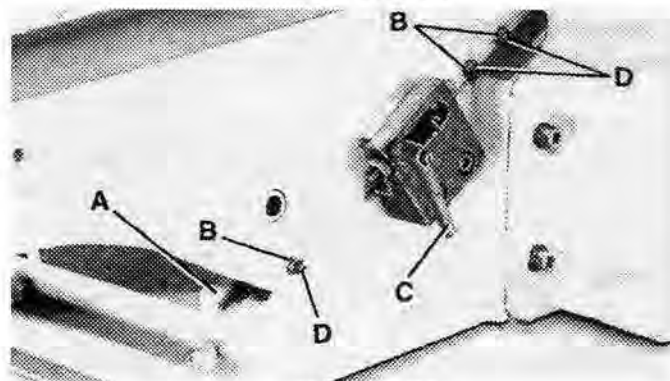
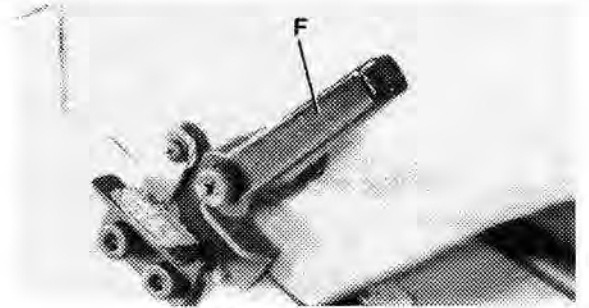

FIGURE 31
FIGURE 32
1. To adjust the infeed table gib, loosen locking knobs (C) Fig. 31 and (F) Fig. 32. Loosen three lock nuts (B) Fig. 31, and tighten or loosen three adjustment screws (D) as necessary. **NOTE:** Adjust the lower screw first and as you proceed to the upper adjustment screws, gently raise the outboard edge of the table. This will offset any tendency for the table casting to "droop or sag" and permit the gib to be adjusted to the proper fit to the upper adjustment screws. Tighten three lock nuts (B) Fig. 31, and two table locking levers.